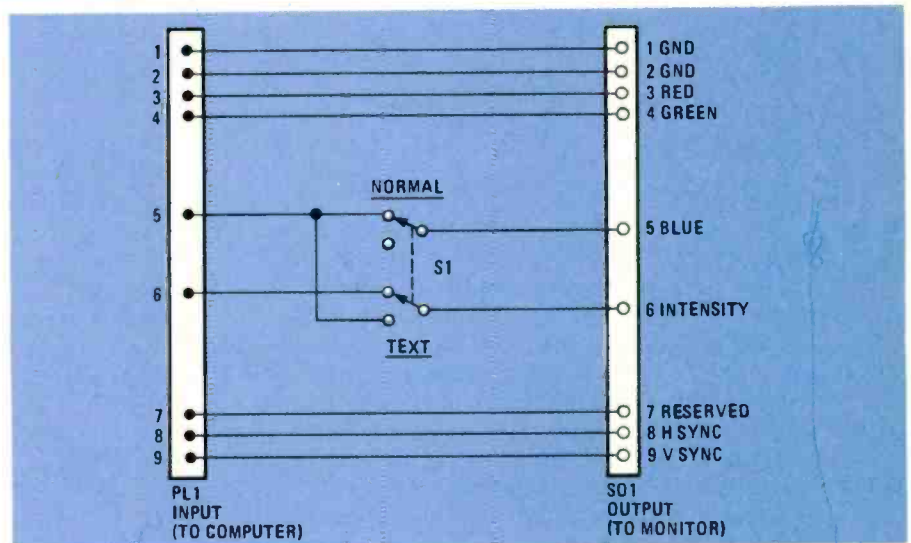

Fig. 1—Here's the schematic diagram for the RGB Blue Box. The circuit is simplicity itself. Thanks to that, it should cost no more than \$10 to build.
**Operation Basics.** Take a look at the block diagram shown in Fig. 1 and you'll see two inverting op-amps connected in tandem. Amplifier A increases the microphone's output to a usable level. That amp's output signal is fed to op-amp B, which inverts the signal 180°.
*Fig. 1—The microphone's output is amplified and sent right out to the other intercom. Some of its output is shifted by 180° and mixed with the original signal to cut down feedback that would occur locally before being amplified.*
**Circuit Operation** Figure 1 shows a schematic diagram of the TV Audio Amplifier. The circuit is built around an LM324 low-power quad op-amp and an LM386 low-voltage audio power amplifier. One op-amp in the LM324 package (U1) is configured as a pre-amp, which is used to amplify the signal input from an electret microphone element (not shown) that plugs into J1. A bias voltage of around 4.17 volts is supplied to pin 3 of U1 through a resistor/capacitor network consisting of R6, R7, and C3. The microphone picks up the TV audio and produces an electrical signal that is fed through C1 and R4 to the inverting input of U1 at pin 2.
Fig. 1—The TV Audio Amplifier is built around an LM324 quad op-amp and an LM386 low-power audio amplifier. The circuit uses an inexpensive electret microphone element as the pick-up and a set of earphones as the output device.
Figure 1 shows the schematic diagram of the Capacitance Adapter, which is basically a capacitance-to-voltage converter. The circuit consists of only two active devices: a 74HC132 quad, two-input NAND Schmitt trigger (U1) and 7805 5-volt regulator (U2). One gate in the U1 package (U1-a) forms a free-running oscillator, while R1 allows for frequency adjustments. The squarewave output of the oscillator is fed to two inverters, U1-b and U1-c.
**Fig. 1—The circuit is built around a single 74HC132 quad NAND Schmitt trigger. It produces a voltage that is directly proportional to the unknown capacitance,  $C_x$ .**